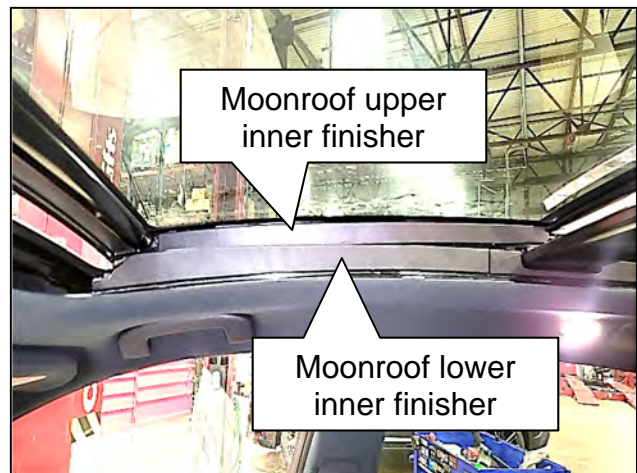

Figure 1
2. Open the moonroof glass approximately 2 inches to allow access to the LH side and RH side moonroof inner finishers (Figure 1).